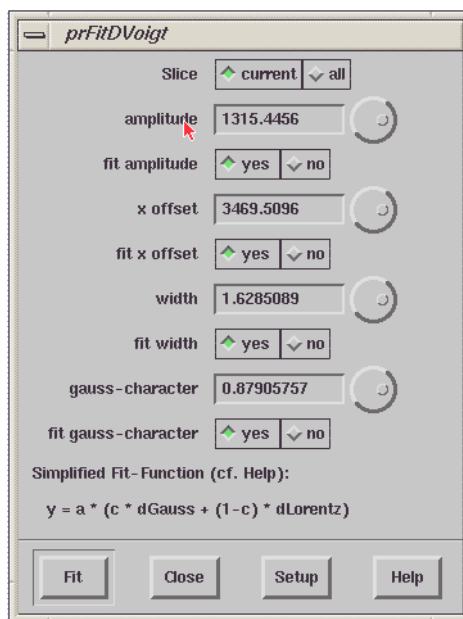

Figure 6-51 The fitting parameters.
7. **Select the fitting parameters.** (See Figure 6-51.) You can choose whether or not to fit the amplitude, x offset (resonant magnetic field value), line width, and the percentage of the gaussian lineshape (gauss-character) by clicking the **yes** or **no** button. Xepr provides a set of initial values for the fitted parameters.